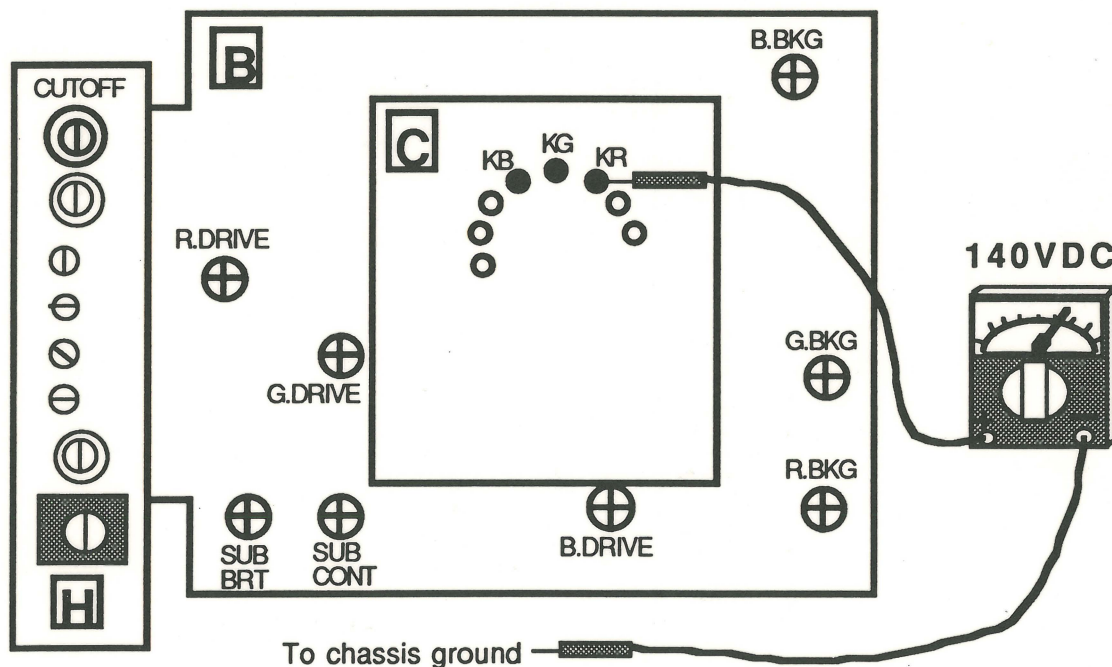

FIGURE 1
6. Set up a voltmeter as shown in Figure 1.